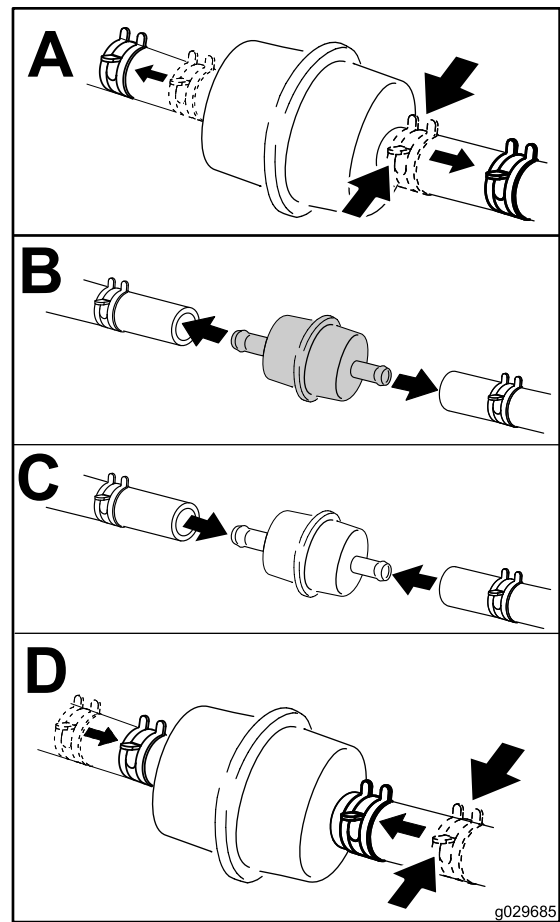

Figure 46
5. Replace the fuel filter (**Figure 46**).